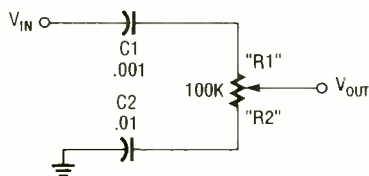

Fig. 3. The treble control is similar in principle to the bass control, but the capacitors are placed in series with the potentiometer.
**The Treble Control.** The treble control (shown in Fig. 3) works in a similar way. The input is applied to C1 and the output is taken from a potentiometer wiper. Resistors R1 and R2 make up the two halves of the potentiometer.